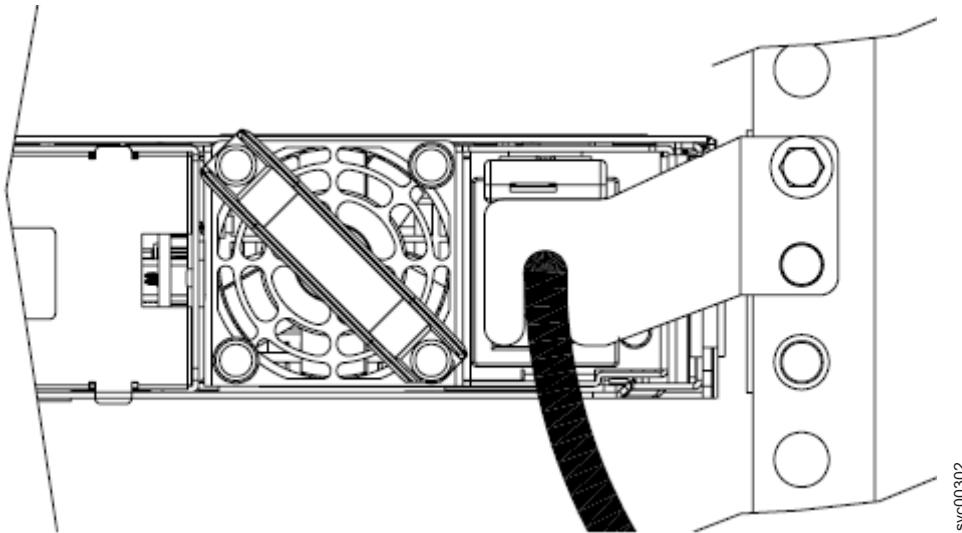

Figure 23. The SAN Volume Controller 2145-8G4 with cable-retention bracket type B attached
1. Remove the securing bolt from the node side rail (shown in Figure 23 on page 40) next to the power supply.